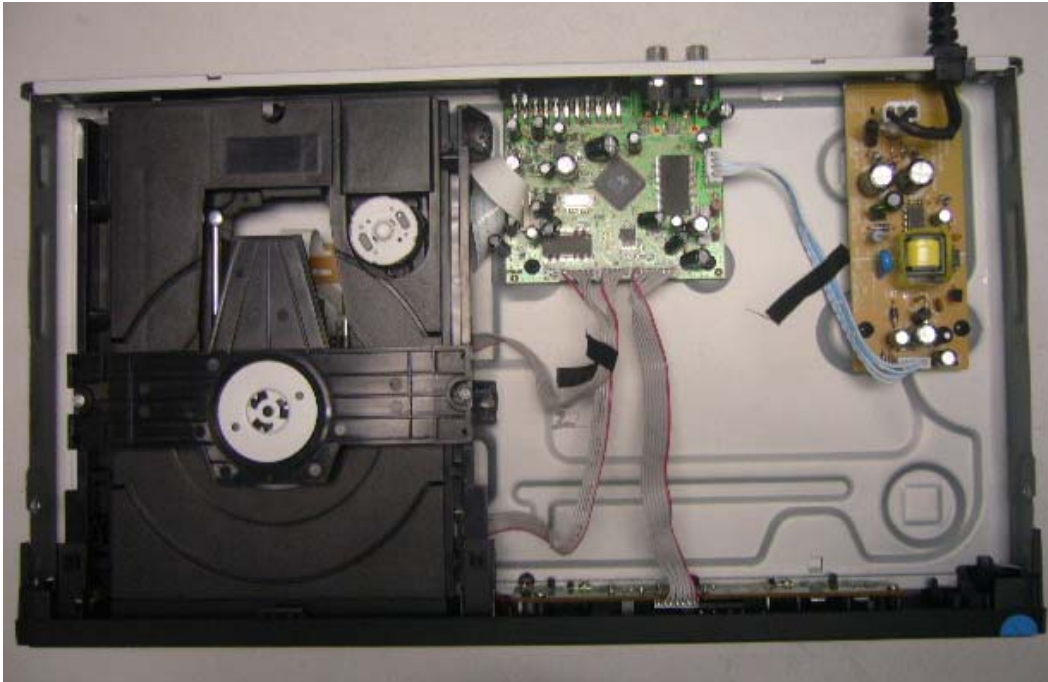

Figure 1
Step1: Remove 5 screws around the Top Cover, and then remove the Top Cover(Figure1)